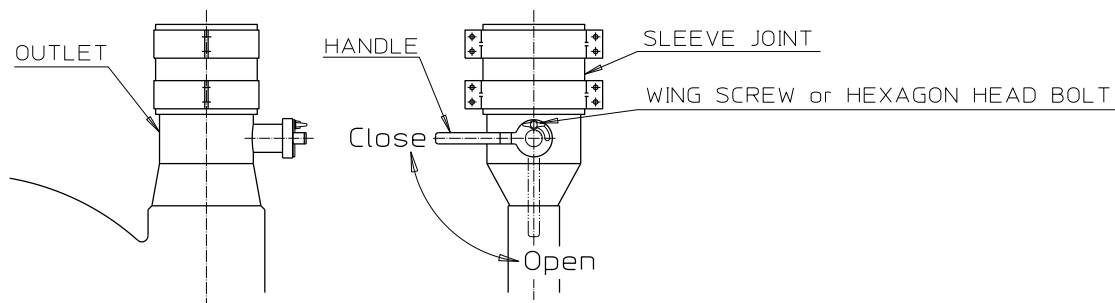

Fig.2 Damper
- (1) Air volume is adjusted by the damper. After adjusting the volume with the handle, its position can be fixed by the wing screw or the hexagon head bolt. (Fig.2)